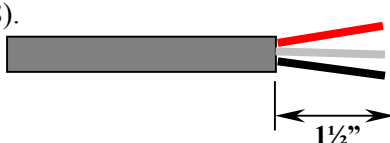

FIGURE 8: Initial Audio Cable Preparation
- 1) If applicable (some audio systems use twisted pair), strip at least 1½ inches of the outer sheathing material from each audio cable (left and right channels) to expose the two conductors and shield (see Figure 8).